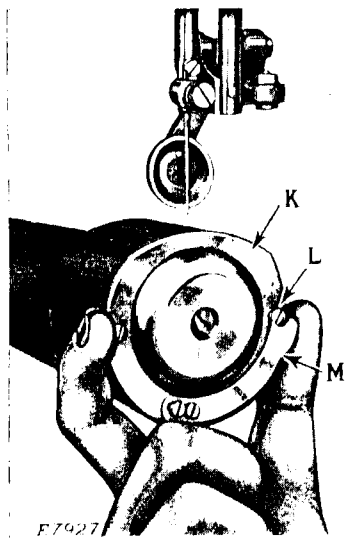

FIG. 9. REMOVING
Turn the balance wheel over toward you until the needle bar is at its highest point. Press outward on the spring (M) as shown in Fig. 9, so as to clear the screw (L, Fig. 9) and at the same time raise the back edge (K, Fig. 9) of the cap until the screw head (L) is under the spring, then pull outward on the cap and slide it from you. Turn the balance wheel over from you until the needle bar is at its lowest point, then with the thumb and forefinger of the right hand, lift out the shuttle; open the shuttle cover, turn the shuttle downward and the bobbin will drop out.